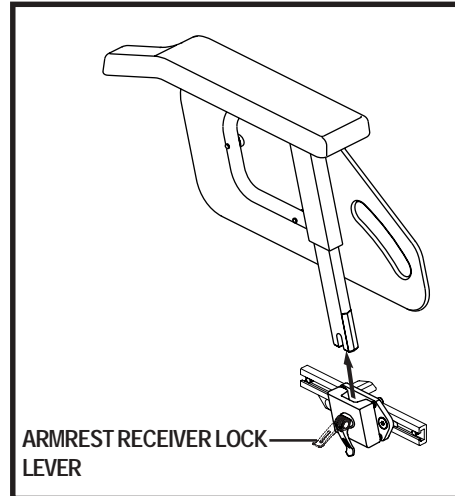

Figure 12. Armrest Removal
1. Loosen the armrest receiver lock lever. See figure 12.